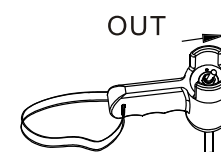

figure 11
- ◇ When wire rope comes out, the switch trigger is in the position of "Out"(See figure 11).